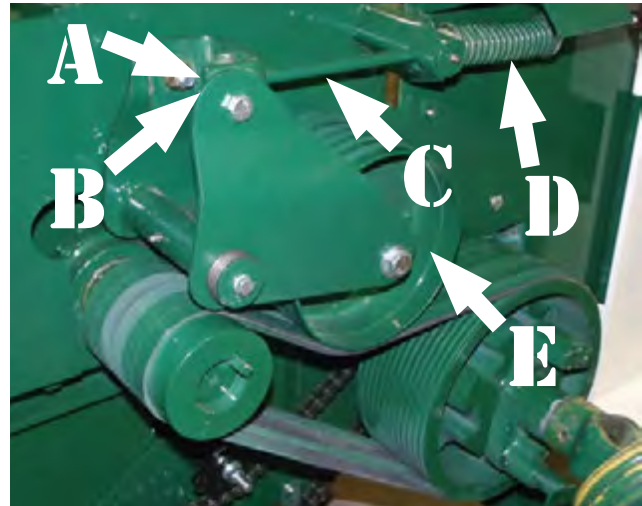

Figure 19 - Belt Tension Adjustment Idler - 1000 RPM Drive Shown
- Loosen locking nut "A" (see Figure 19).
- Adjust bolt "A" (Figure 19, Detail A) until 15 pounds of pull on the scale raises the top of one double V-belt approximately 1/4 inch above the top of the remaining belts (see Figure 21).